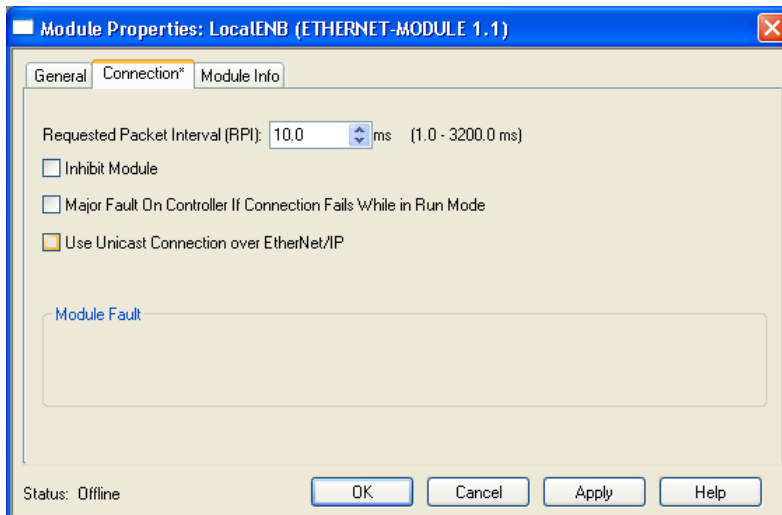

Figure 4-4: Setting Module RPI
5. The “New Module” window now appears as a “Module Properties: ENB” window with the Connection tab selected. Set the “Requested Packet Interval (RPI)” value to 20.0 ms (this can be reduced to 10.0ms when not using Workbench in combination with EtherNet/IP). If an option “Use Unicast Connection over EtherNet/IP” is visible, make sure it is unchecked. Click OK. (Figure 4-4: Setting Module RPI).